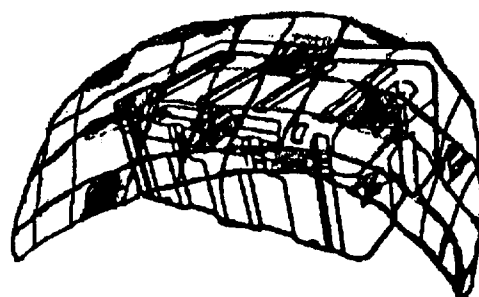

Figure 2-54. Cover, Individual, Camouflage Net
- af. Cover, Individual, Camouflage Net. This net (See Figure 2-54) comes in woodland, desert, and snow patterns. Use it as a personal camouflage covering by matching the pattern to the surrounding environment in an escape and evasion situation.